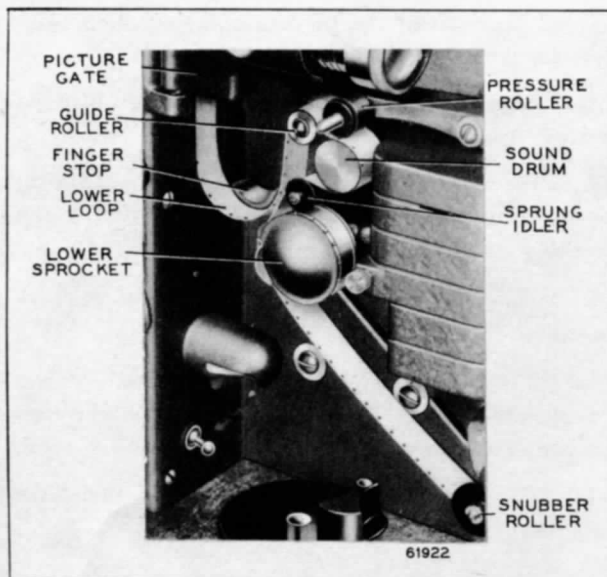

Figure 6—Threading the Sound Drum
g. Form the lower loop of film below the picture gate as indicated by the white guide line and finger stop (fig. 6).